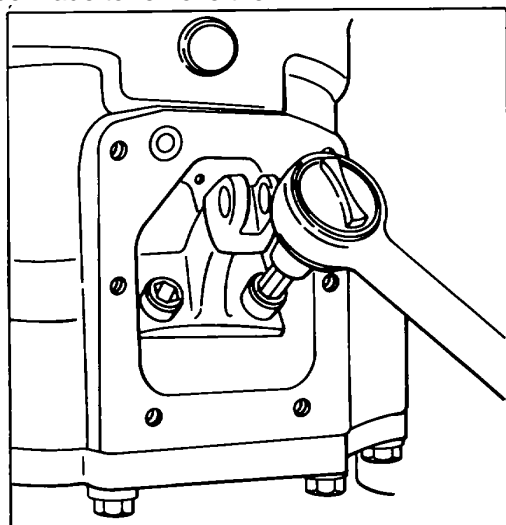

Figure 147.
22. Inspect cam lever bolt holes being certain they are clean and dry. Install lever assembly (35) including dowel pin (36). Apply Loctite, Grade D, to allen head cap screw threads (28), install screws and torque screws to 1040 in. lbs. See Fig. 147.